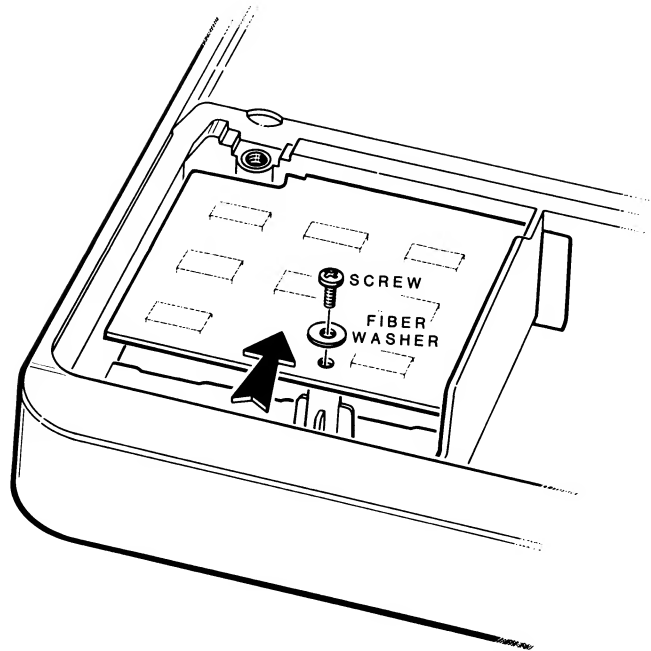

Figure 18-1. Installing the Expansion Memory
1. Position the computer as shown in Figure 18-1.